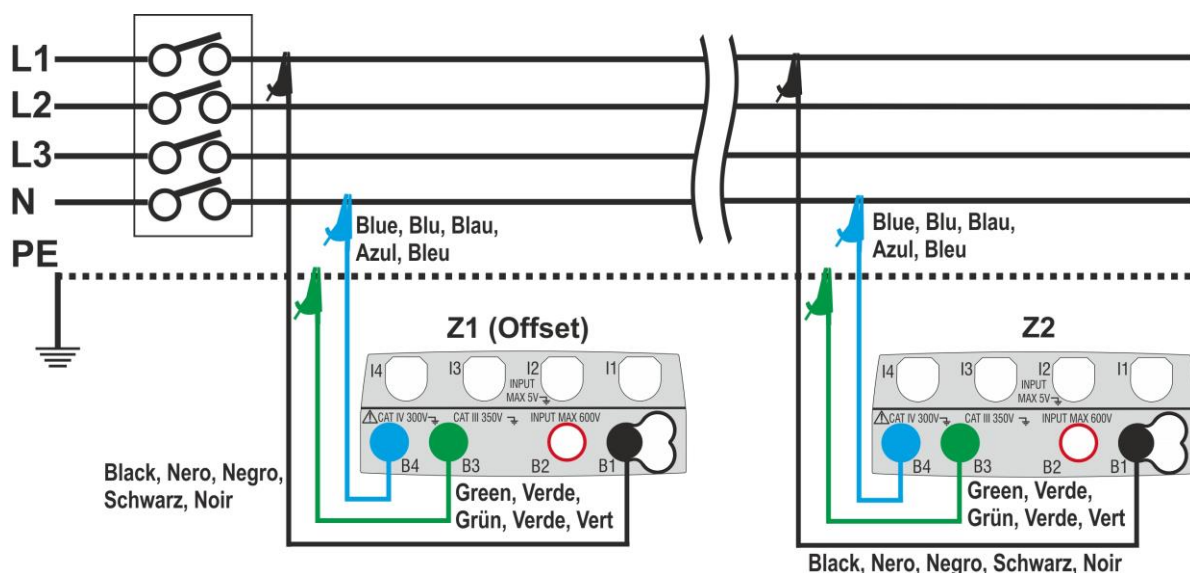

Fig. 34: Connection of the instrument for L-N mode voltage drop measurement
- 10 Go to step no. 9 in case the value of Z1 (Offset) has been set manually. **In case of the value of Z1 (Offset) has NOT been manually set** connect the instrument to the initial point of the main line being tested (typically downstream to a protection device) according to Fig. 34 or Fig. 35 in order to carry out the first **Z1 (Offset)** impedance measurement. In this case the instrument will measure the impedance upstream of the initial point of the main line being tested taking it as start reference. The following screen (referred to L-L measurement) appears on the display
- 13 Connect the instrument to the final point of the main line being tested according to Fig. 34 or Fig. 35 in order to measure the **Z2** impedance at the end of line. The screen to the side is displayed. Note the previously measured Z1 (Offset) value displayed